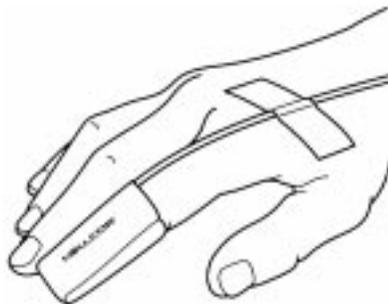

Figure 2
- Avoid applying additional tape over the sensor bandage. This will reduce the risk of venous pulsation and inaccurate saturation measurements as well as the potential for pressure damage at the site. However, applying tape over the cable may help prevent the sensor from becoming dislodged (Figure 2).